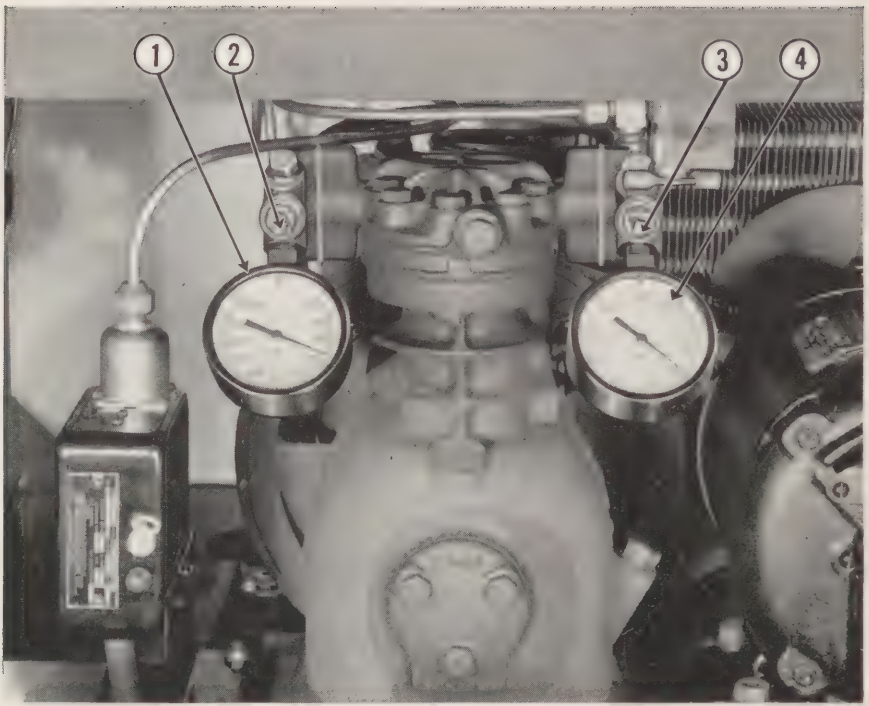
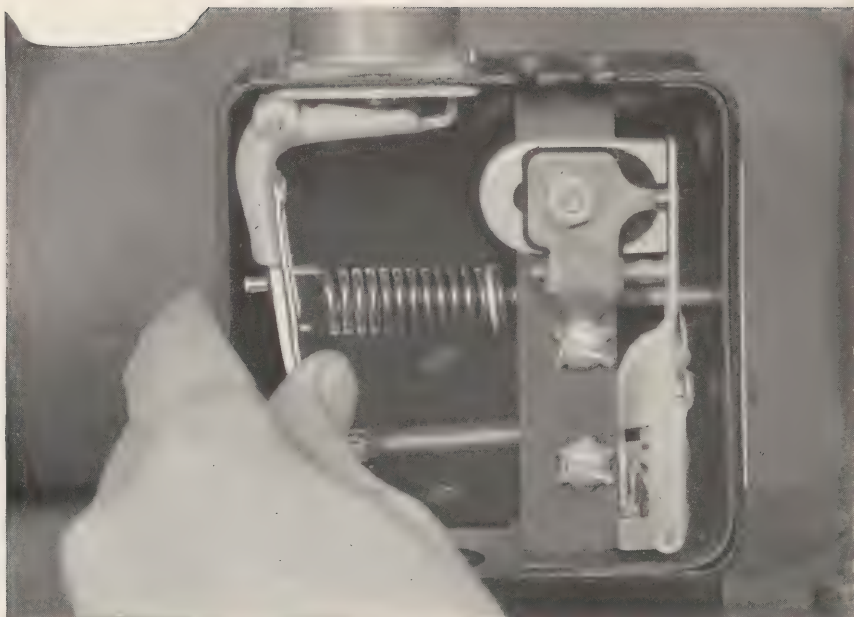

Figure 15. Gages installed.
Figure 19. Manually closing low pressure control.
**a. Installing the Compound Gage.** The compound gage is calibrated from 30 inches of vacuum to 60 pounds per square inch pressure. To install the compound gage proceed as follows: (fig 15).
- (1) Locate the suction service valve (fig 15, item 3) attached to the head of the compressor and connected to the  $\frac{3}{8}$  inch suction line.
- (2) Remove the valve stem cap.
- (3) Make certain that the valve is back seated.
- (4) Remove the lower pipe plug from the valve.
- (5) Connect the compound gage (fig 15, item 4) in the plug opening. (Screw in gage until gas tight.)
- (6) To read gage, open valve by turning stem 1 turn in a clockwise direction. (Gage will now indicate pressure on the low side of the system.)
- (1) Locate discharge service valve (fig 15, item 2) attached to the head of the compressor and connected to the condenser.
- (5) Connect the pressure gage (fig 15, item 1) in the plug opening. (Screw in gage until gas tight.)
- (6) To read gage, open valve by turning stem 1 turn in a clockwise direction. (Gage will now indicate pressure on the high side of the system.)
- (1) Install the gages. (See par 38.)
- (2) Locate the suction service valve attached to the compressor (fig 15).
- (3) Remove the valve stem cap.
- (4) Front seat the valve.
- (5) Permit the compressor to operate until the pressure indicated on the compound gage is 0. It will be necessary to manually close the low pressure control contact points by removing the control cover plate and manually depressing the lever as indicated in fig 19.
- (6) Disconnect the extension cord plug from the source of supply.
- (7) Remove the valve stem cap and front seat the discharge service valve (fig 15, item 2).
- (8) The following services can now be performed without removing the compressor body from the unit compartment: